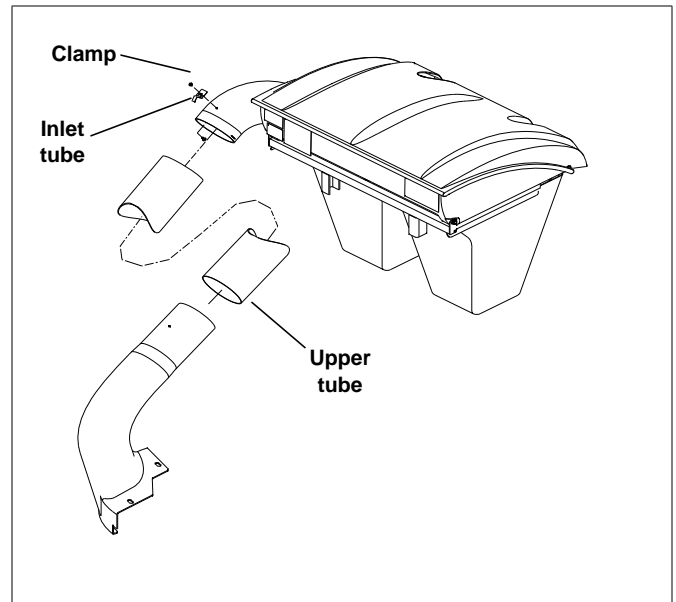

Figure 3-12
18. Slide the upper tube end onto the deck chute. Figure 3-12
19. Slide the upper tube end onto the catcher lid inlet tube. Figure 3-12
20. Secure with clamp on catcher lid inlet tube. Figure 3-12